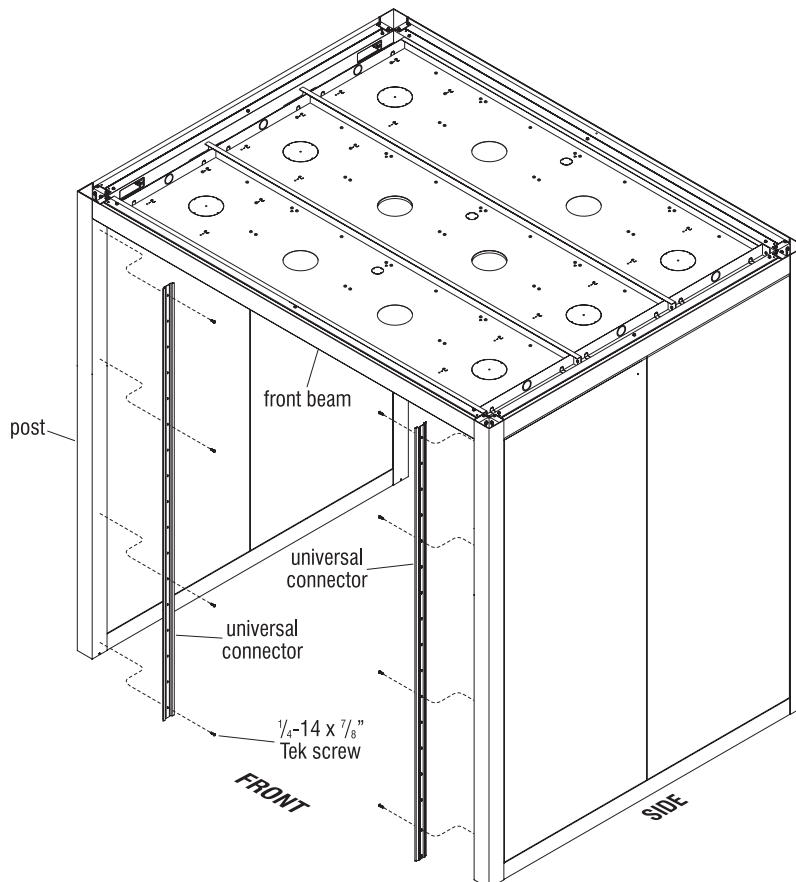

Figure 2 -Genius Universal Connector
3. To install universal connectors to each super structure post, first measure from the underside of the front beam, down to the floor at each post, then cut each universal connector to that measurement (Figure 2).
4. One at a time at each side, perfectly center each universal connector to the side of the front wall post where the Genius panel will join to it and secure each universal connector to the post using four evenly spaced  $\frac{1}{4}$ -14 x  $\frac{7}{8}$ " Tek screws as illustrated (Figure 2).